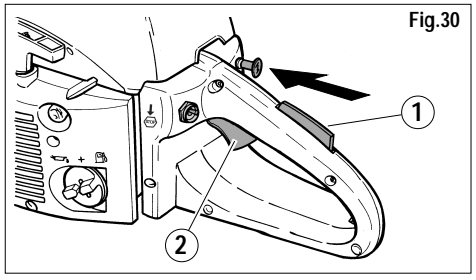

Fig.30
7) Fully press down the air knob (choke) (fig. 30), so that the "THROTTLE ADVANCE" remains engaged.
9) Using the palm of your hand, press the throttle trigger lock-out (fig. 30 part. 1) and then press the throttle trigger (fig. 30 part 2); this way **"THE THROTTLE ADVANCEMENT"** will disengage and the engine will run at minimum speed.